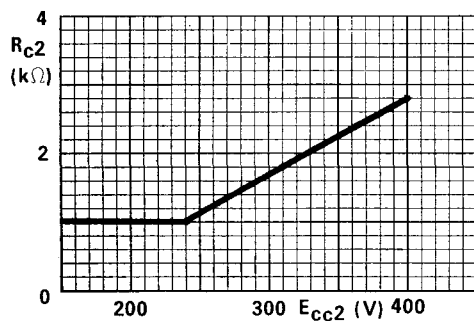

Figure 1
- ▲ To prevent an excessive value of Pc2 the minimum Rc2 values are given in Figure 1.
Note: R_{c2} minimum for 400 V screen grid supply is 2.9 k Ω (see Figure 1).
Note: R_{c2} minimum for 350 V screen grid supply is 2.2 k Ω (see Figure 1)
Note: R_{c2} minimum for 280 V screen grid supply is 1.4 k Ω (see Figure 1)